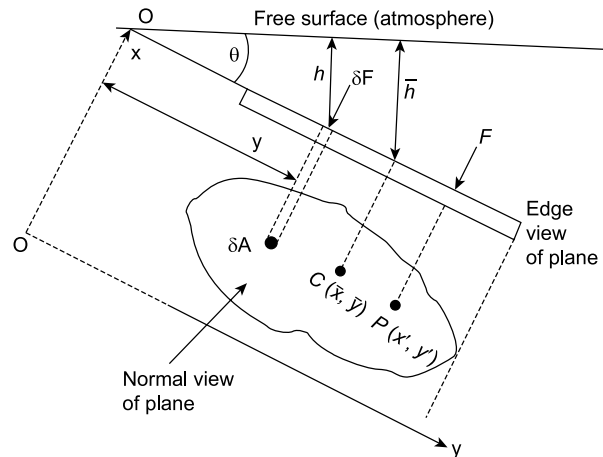

Figure 22.11
**Problem 11.** Determine an expression for the thrust acting on a submerged plane surface, which is inclined to the horizontal by an angle  $\theta$ , as shown in Figure 22.11.
From Figure 22.11,  $\delta F =$  elemental thrust on  $dA$
**Problem 12.** Determine an expression for the position of the centre of pressure of the plane surface  $P(x', y')$  of Figure 22.11; this is also the position of the centre of thrust.
- A tank has a flat rectangular end, which is inclined to the horizontal surface, so that  $\theta = 30^\circ$ , where  $\theta$  is as defined in Figure 22.11, page 254. If this end is of size 6 m height and 4 m width, determine the thrust on this end and the position of the centre of pressure from the top. The tank may be assumed to be just full.